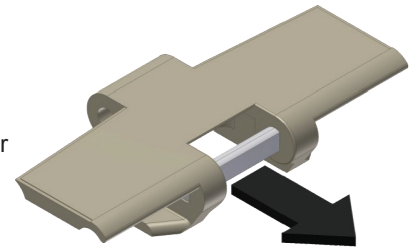

Figure 1
- Verify chain direction is correct (See Figure 1)
- ▶ If intermixing chain manufacturers (Habasit/Rexnord), always match pin to chain as shown (Figure 1)